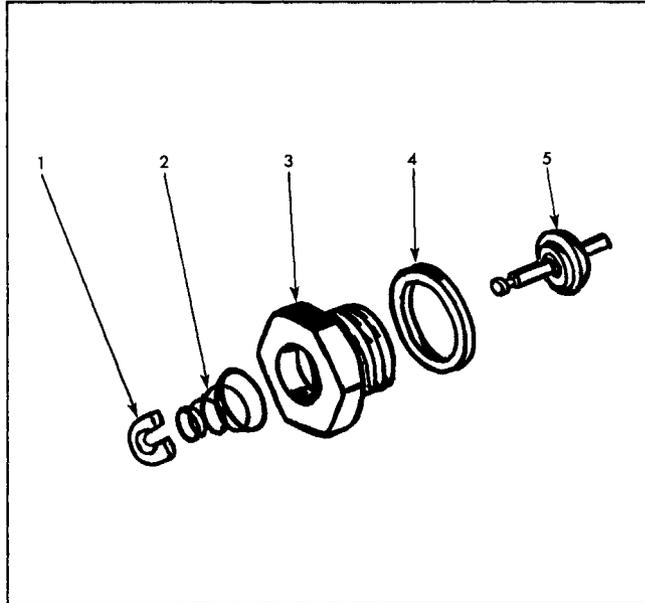

Fig. 5-25 Disassembly or Assembly of Compensating Valve
**DISASSEMBLY OF COMPENSATING VALVE (FIG. 5-25)**
### ASSEMBLY OF COMPENSATING VALVE (FIG. 5-25)